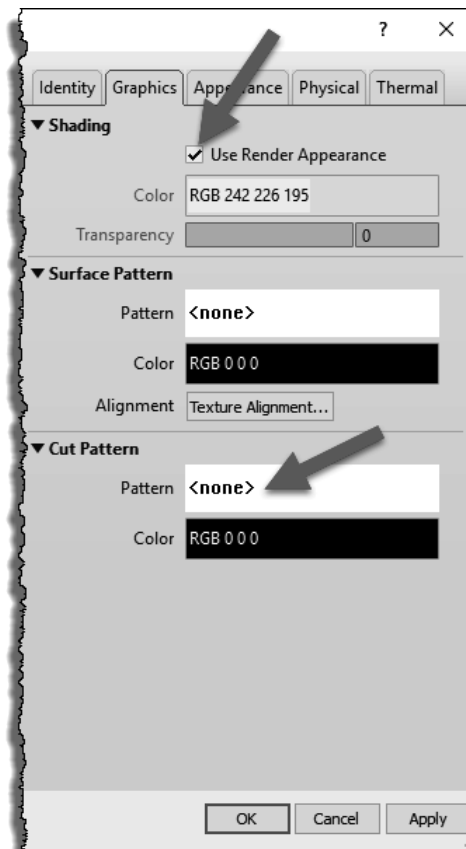

FIGURE 4-3.19
53. Make sure the **Use render Appearance** under *Shading* is checked (Figure 4-3.19).
54. Set the *Cut Pattern* to **None** (Figure 4-3.19).